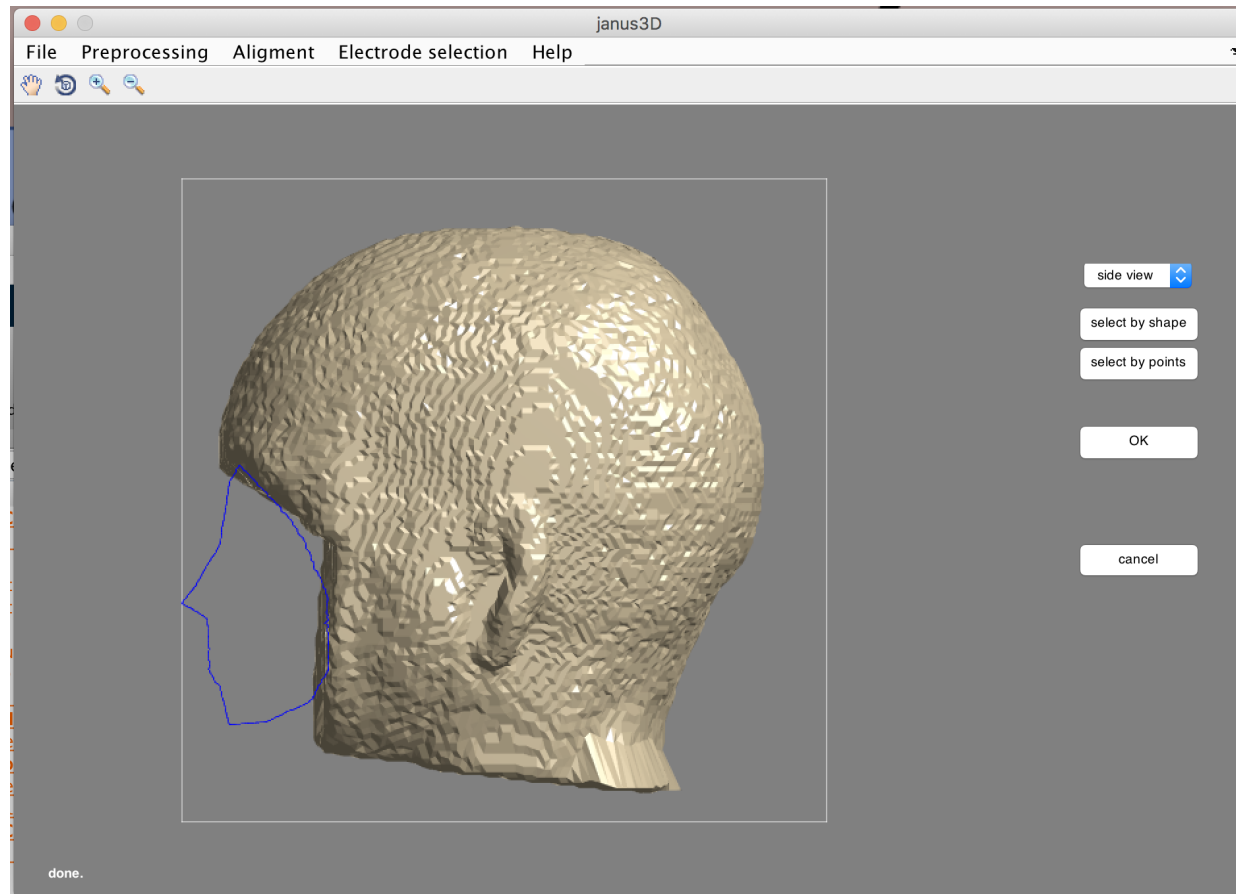

Figure 38. Defacing the MRI scan
5. Now “deface” your MRI model by clicking “preprocessing”, “MRI”, “deface”. You can now choose the option “by shape” which lets you take your previous selected face and move it on top of your MRI scan face (Figure 38). Press “by shape” again when done. Then press OK.